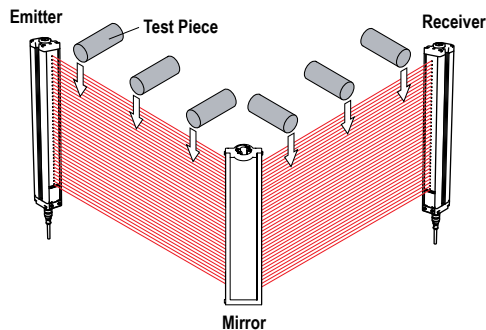

Figure 29. Trip Test with Corner Mirror
5. If mirrors are used in the application: Test the defined area on each leg of the sensing path (for example, emitter to mirror, between mirror and receiver, see Figure 29 on page 38).